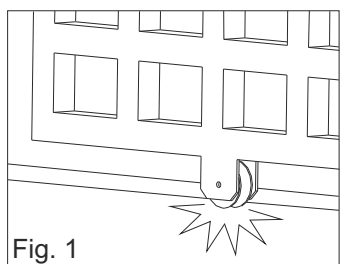
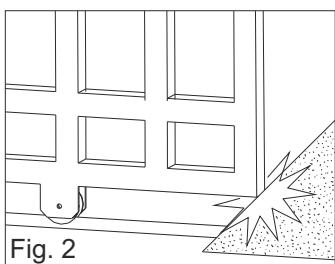
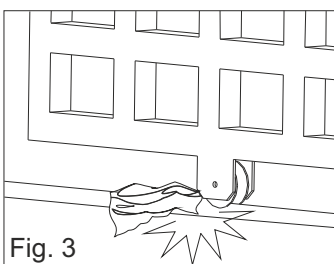

Fig. 1
Fig. 2
Fig. 3
- C** - The lower gate slideway is perfectly straight, horizontal and without any obstacles which could obstruct the gate sliding (Fig. 1) (Fig. 2) (Fig. 3);